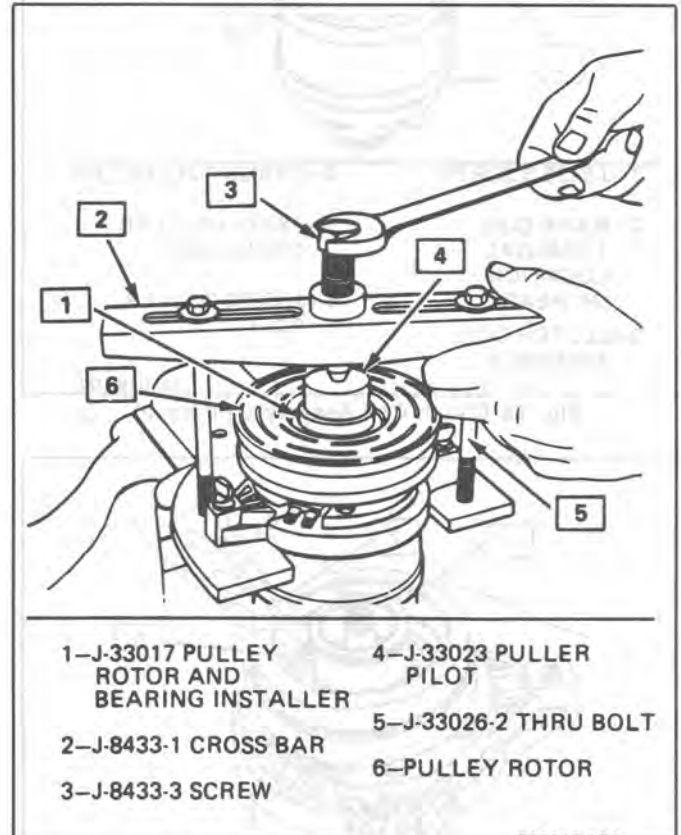

Fig. 17 Installing Pulley Rotor and Bearing Assembly
5. With the compressor mounted to the J-33026 holding fixture, position the rotor and bearing assembly on the front head (Fig. 17).
6. Position the J-33017 pulley rotor and bearing installer and J-33023-A puller pilot directly over the inner race of the bearing (Fig. 17).
7. Position puller crossbar J-8433-1 on the puller pilot J-33023-A and assemble the two J-33026-2 through bolts and washers through the puller bar slots and thread them into the J-33026 holding fixture (Fig. 17). The thread of the through bolts should engage the full thickness of the holding fixture.
8. Tighten the center screw in the J-8433-1 puller crossbar to force the pulley rotor and bearing assembly onto the compressor front head (Fig. 17). Should the J-33017 pulley rotor and bearing installer slip off direct in-line contact with the